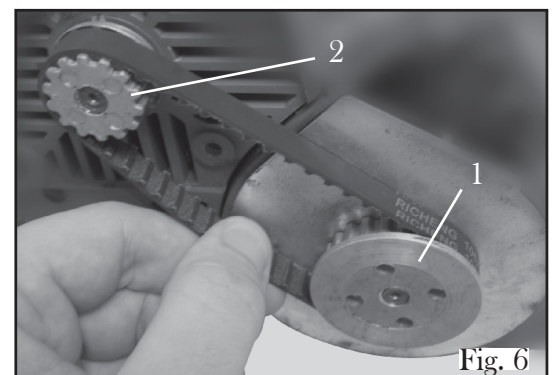

Fig. 6
3. Note the position of the belt in relation to the pulleys. Rotate the large drive pulley (Fig. 6 - 1) and at the same time ease the drive belt from the motor pulley (Fig. 6 - 2).